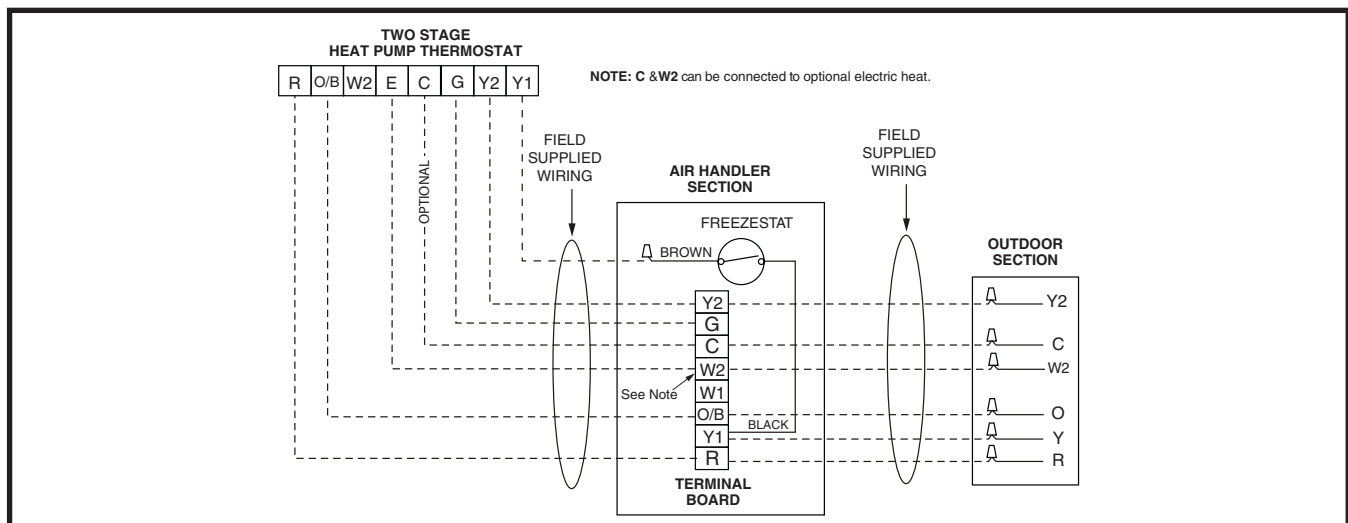

Figure 2. Typical Two Stage Heat Pump Thermostat Connection
- Two-stage heat pump thermostats are required for this equipment. Select a thermostat that operates in conjunction with any installed accessories. A typical commercial installation with a heat pump thermostat and air handler is shown in Figure 2 (page 7).